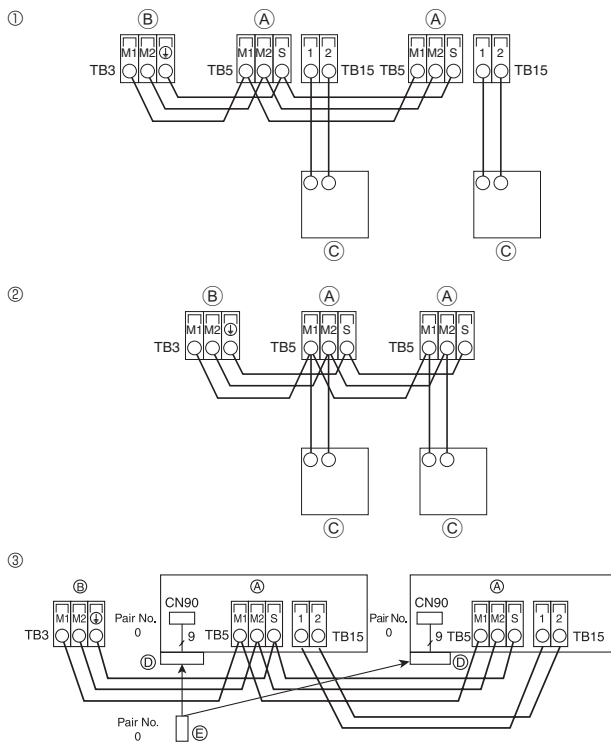

Fig. 6-3
6.4. Connecting remote controller, indoor and outdoor transmission cables (Fig. 6-3)
- ① MA Remote controller
- ② M-NET Remote controller
- ③ Wireless remote controller (When installing wireless signal receiver)